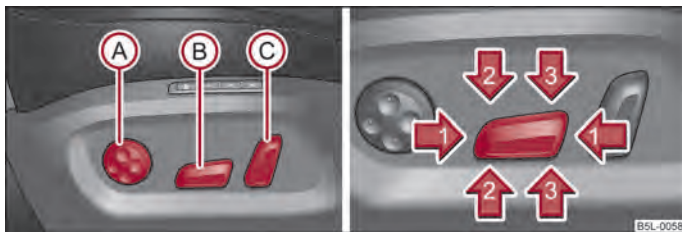

Fig. 45 Side view: Controls for adjusting the seat/seat setting switch
- Press the switch **B** ⇒ fig. 45 forwards or backwards in the direction of arrow **1**.